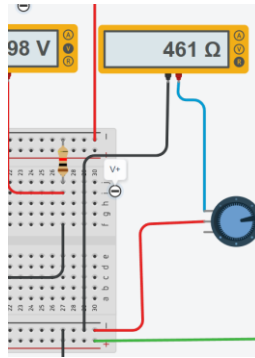

Figure 4 – Measuring resistance R_T
- 7) Vary the potentiometer from zero to the maximum value, observing what happens to the LED at the output. When the output changes, remove the potentiometer and measure the value resistance between cursor (red wire) and the other terminal (blue wire), Figure 4. Write down this value as R_T (measured).